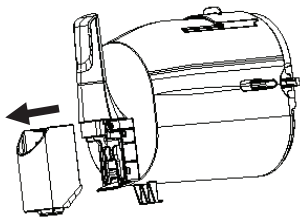
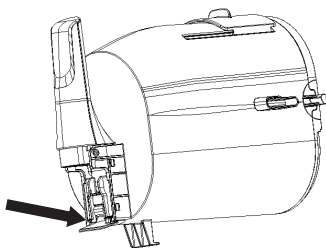
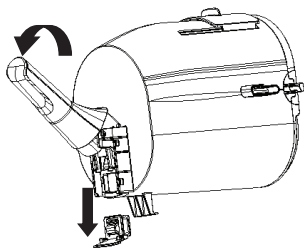

Figure 6-2
Figure 6-3
Figure 6-4
- Outlet port cleaning: Take out the outlet cover (Figure 6-2), press and hold the outlet bracket fastening position (Figure 6-3), then open the barrel handle, and then take off the outlet assembly (Figure 6-4), clean it, and put it back in the order of disassembling and assembling.